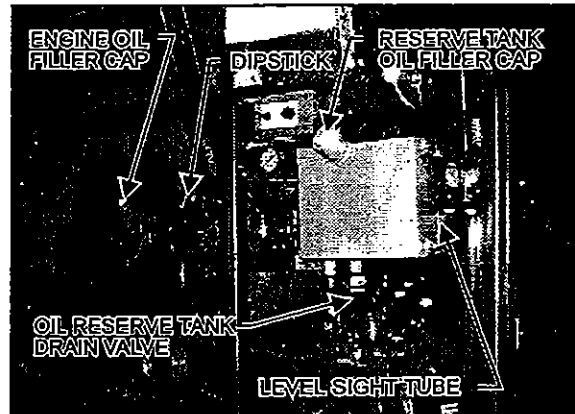

Figure 12
The vehicle is provided with an oil reserve tank in the engine compartment which is used for the engine. To adjust oil level, open the oil reserve tank valve and allow oil to discharge into the engine until reaching the "Full" mark on the dipstick, then close the valve. Check oil reserve tank level through the level sight tube on the side of the tank and pour oil in the reserve tank if necessary (Fig. 12).
8. Remove the engine oil filler cap and pour oil in the engine until it reaches the "FULL" mark on the dipstick (Fig.12).